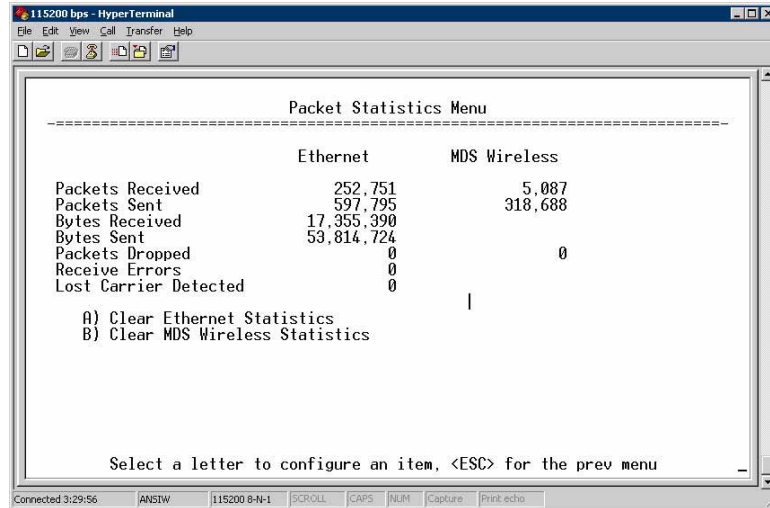

Figure 3-76. Packet Statistics Menu
- ¥ **Packet Statistics** □ Multiple radio and network operating statistics. (See Figure 3-76 on Page 106 for details.)